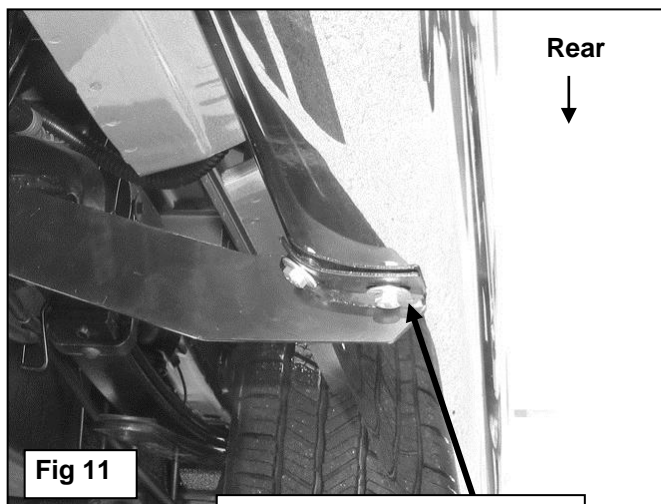

Fig 11
7. Carefully position the Driver Sidebar onto the Mounting Brackets. Attach the Sidebar to the Mounting Brackets with (6) 8mm x 25mm Hex Bolts, (6) 8mm Lock Washers and (6) 8mm Flat Washers, (Figure 11). Do not tighten hardware at this time.